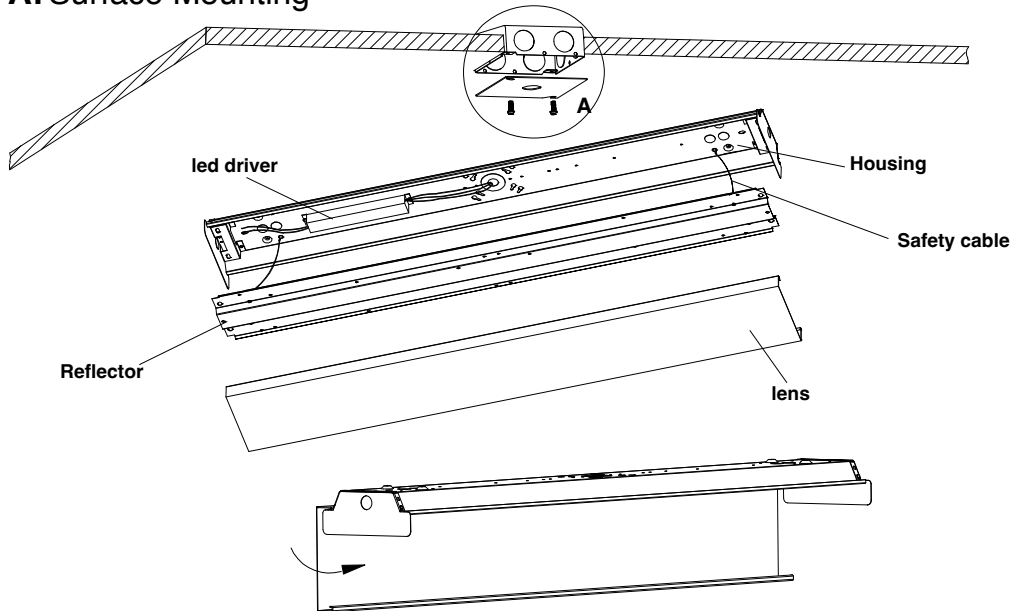

Figure 1
3. Use appropriate UL approved wire connectors as required by code to complete wiring with main power as shown. (Figure 1)